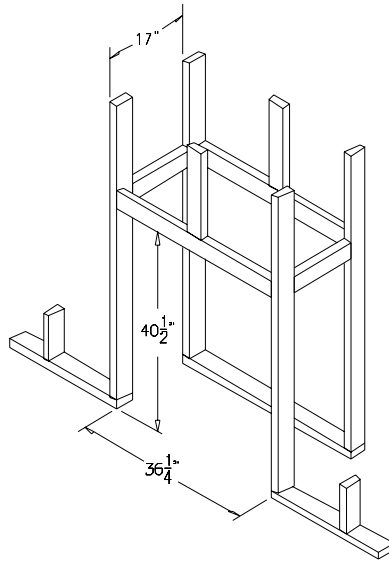
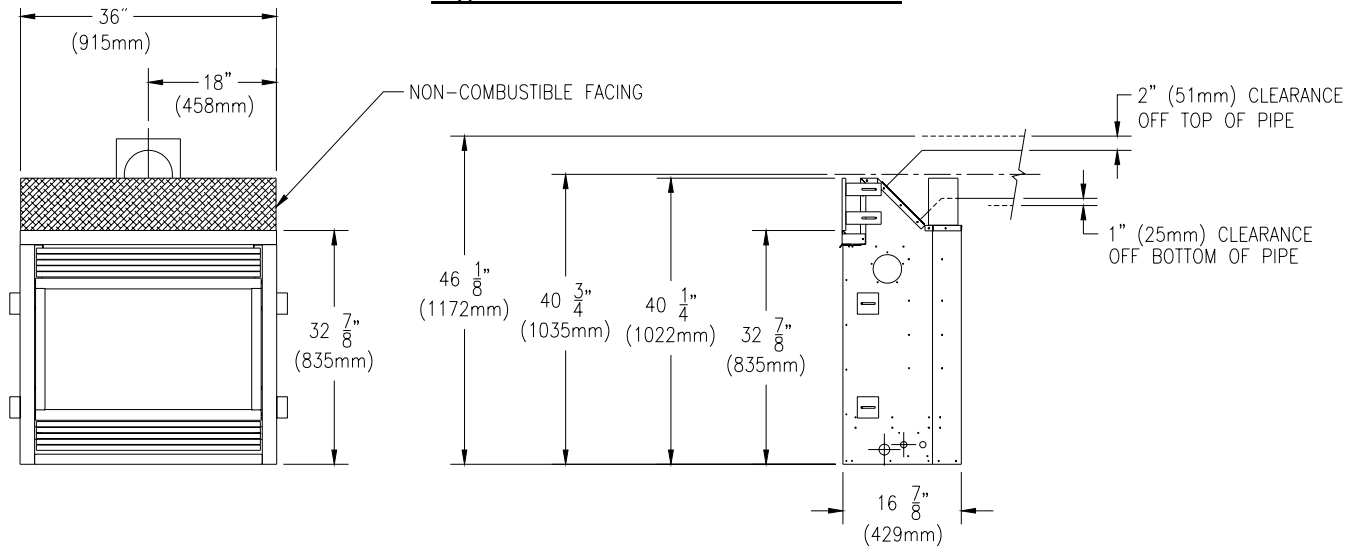

Figure 3.2 Fireplace Framing Dimensions
Figure 3.4 Fireplace Dimensions
2. The recommended framing dimensions are presented in Figures 3.2 and 3.3. The enclosure for the fireplace should be framed with standard framing material. Please note that the framing height is to the top of the standoffs; for rear vent applications the framing height 2" above the top of the inlet pipe is 46-1/8" (Figure 3.4).